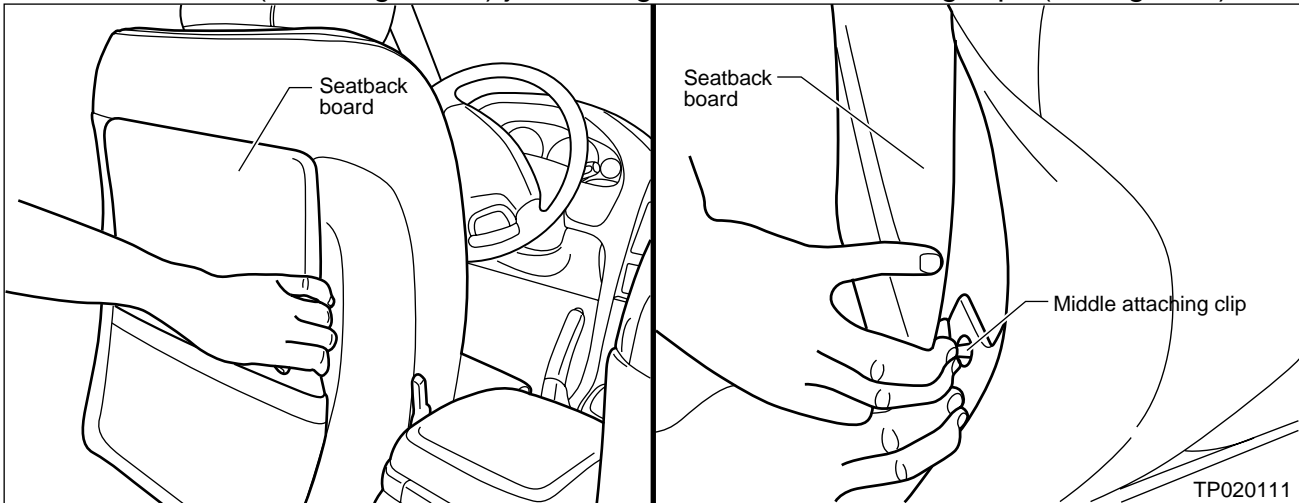

Figure 2
- Place your hand between the seatback and the seatback board. **Gently** pull out on the seatback board (left or right side) just enough to see the attaching clips (see figure 2).